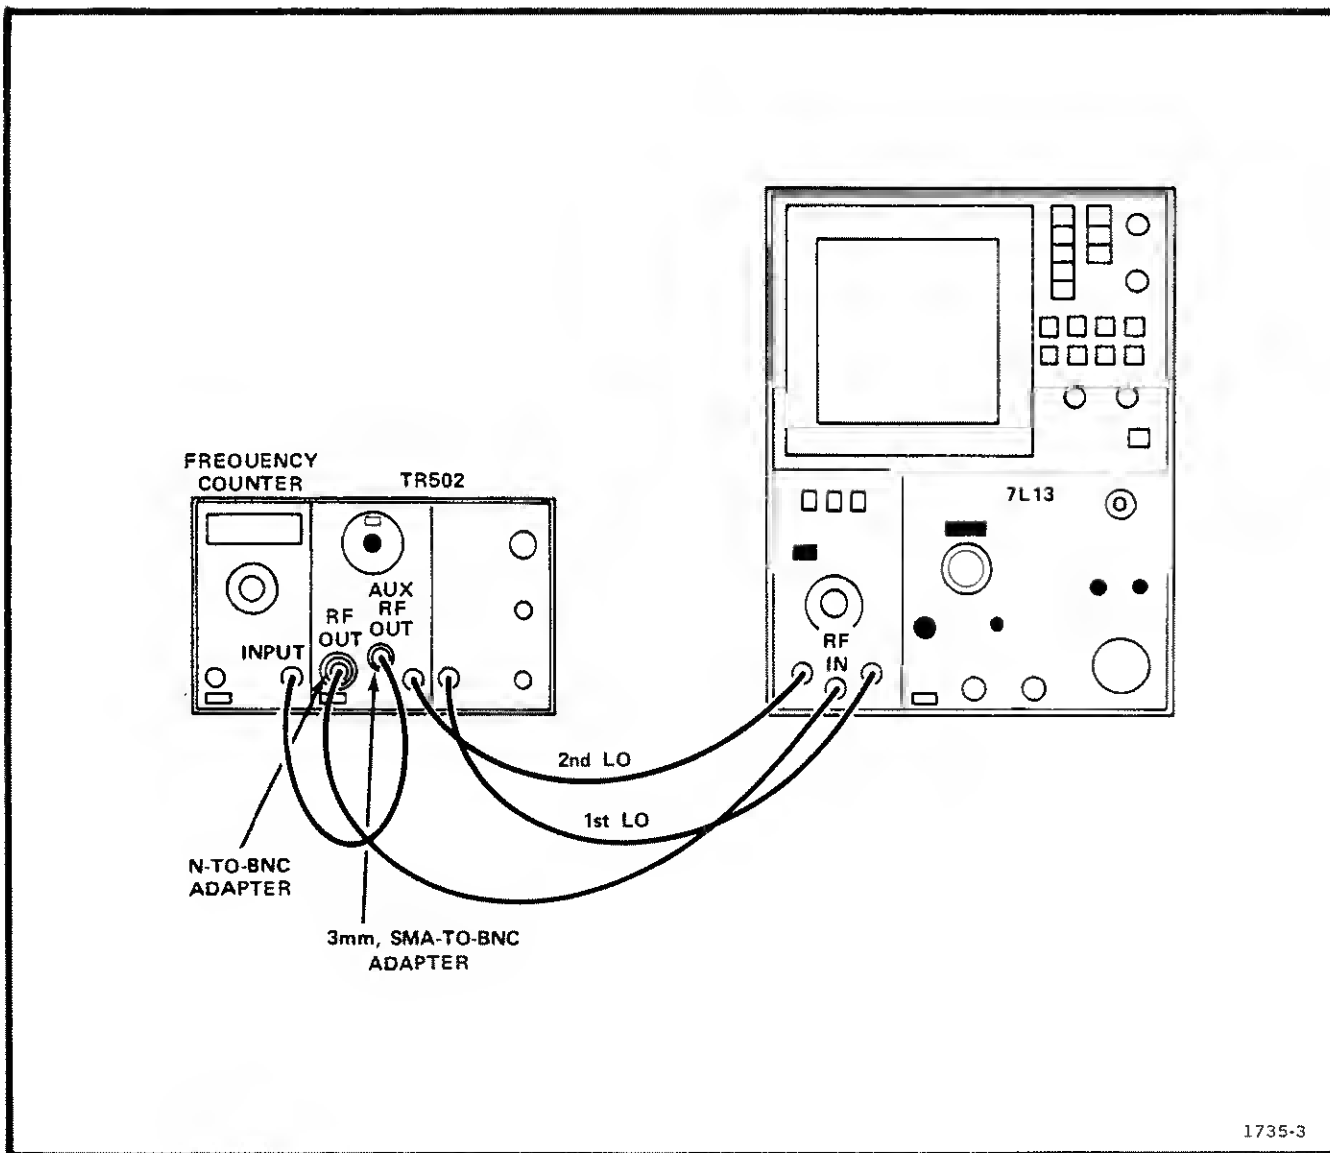

Fig. 2-1. TR 502/7L13 Spectrum Analyzer System with a Frequency Counter.
b. Using the coaxial cables, supplied with the standard accessories, connect the 1st and 2nd LO Output ports of the spectrum analyzer to the 1st and 2nd LO Input ports of the TR 502, then connect the RF OUT to the RF Input of the spectrum analyzer. If a frequency counter is used, connect the AUX RF OUTput of the TR 502 to the RF Input of the counter. Fig. 2-1 illustrates system hookup.